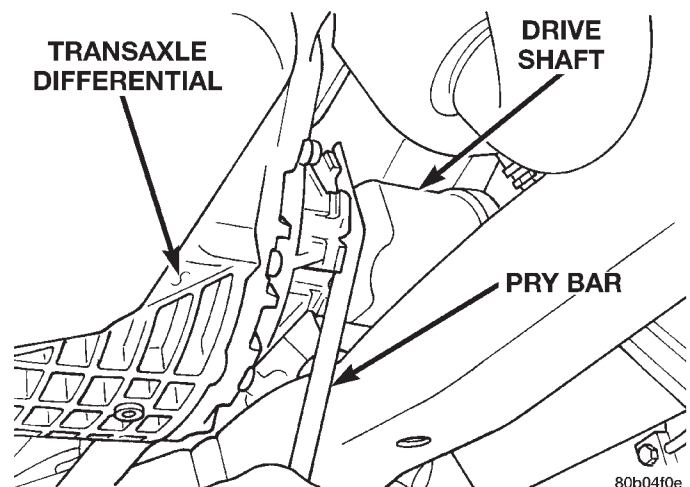

Fig. 44 Drive Shaft Removal
(22) Using a pry bar, disconnect the inner tripod joints from the transaxle (Fig. 44).